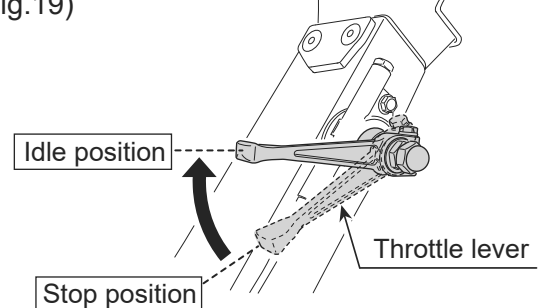

Fig.19
- 1 Open the throttle lever to the idling position. (Fig.19)